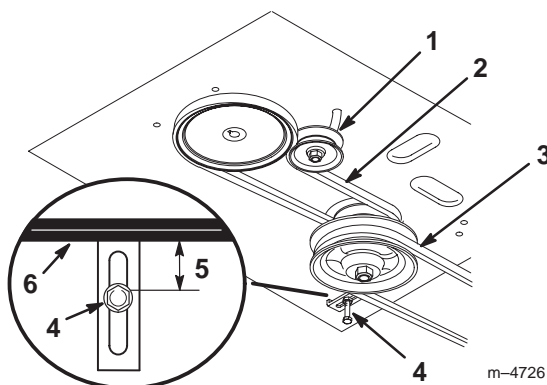

Figure 42
4. Remove the mower belt (Fig. 42).
5. Loosen the pivot bolt enough to slide the idler pulley in the slot and remove the traction belt from the engine and the drive pulleys (Fig. 42).
6. Install the new traction belt around the engine and the drive pulleys (Fig. 42).
7. Slide the idler pulley in the engine frame to tension the traction belt (Fig. 42).
8. Install the mower belt (Fig. 42).
9. Check the belt guide under the engine frame for the proper adjustment (Fig. 42).
4. Remove the idler pulley and the worn belt (Fig. 42).
13. Check the belt guide under the engine frame for the proper adjustment (Fig. 42).